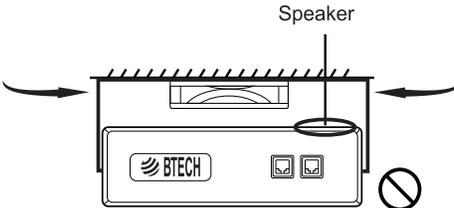

Figure 5
*The figure 5, 6, 7 Incorrect installation method.